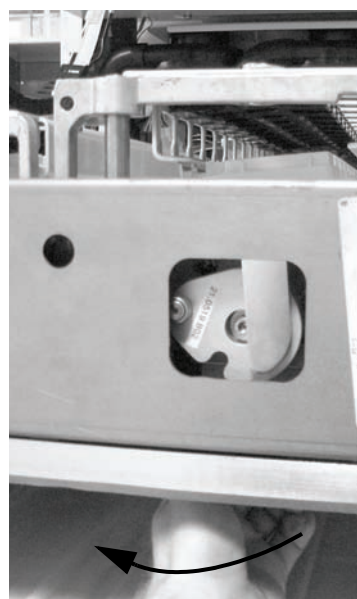

Figure 158: Turn the knob to release the slides
5. Turn the knob in the direction shown in Figure 158. As you do the Covertiles should be moved over the slides and the whole assembly and tray will move up.